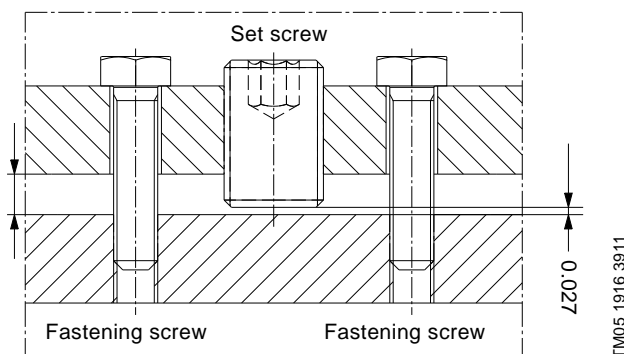

Fig. 18 Impeller clearance adjustment
3. Slacken the fastening screws to make an 0.027 inches (0.7 mm) gap under the head of the fastening screws. See fig. 18.